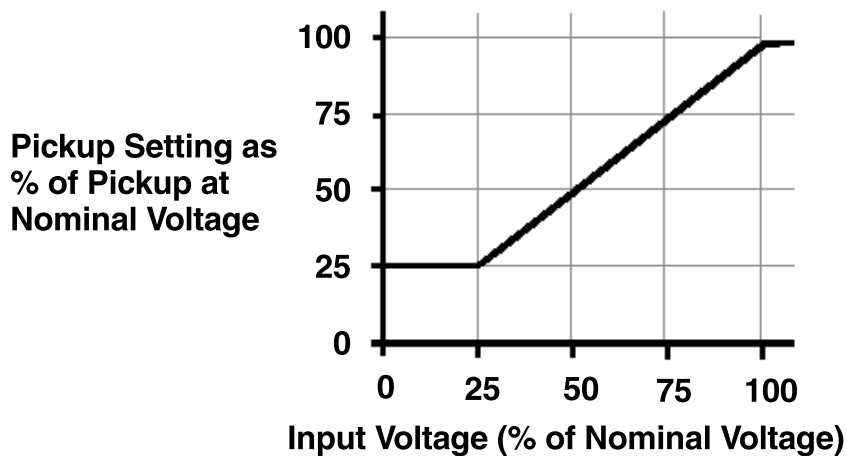

Figure 3-38 Voltage Restraint (51V) Characteristic
When voltage restraint is selected, the pickup of the 51V is modified continuously according to the voltage inputs, as shown in Figure 3-38. The relay continues to operate independently of current decrement in the machine. The voltage restraint
■ **NOTE:** This function should be blocked by fuse loss if in the voltage control mode. Fuse loss blocking is not required for the restraint mode because the pickup is automatically held at 100% Pickup (see Figure 3-38) during fuse loss conditions, and will continue to operate correctly.